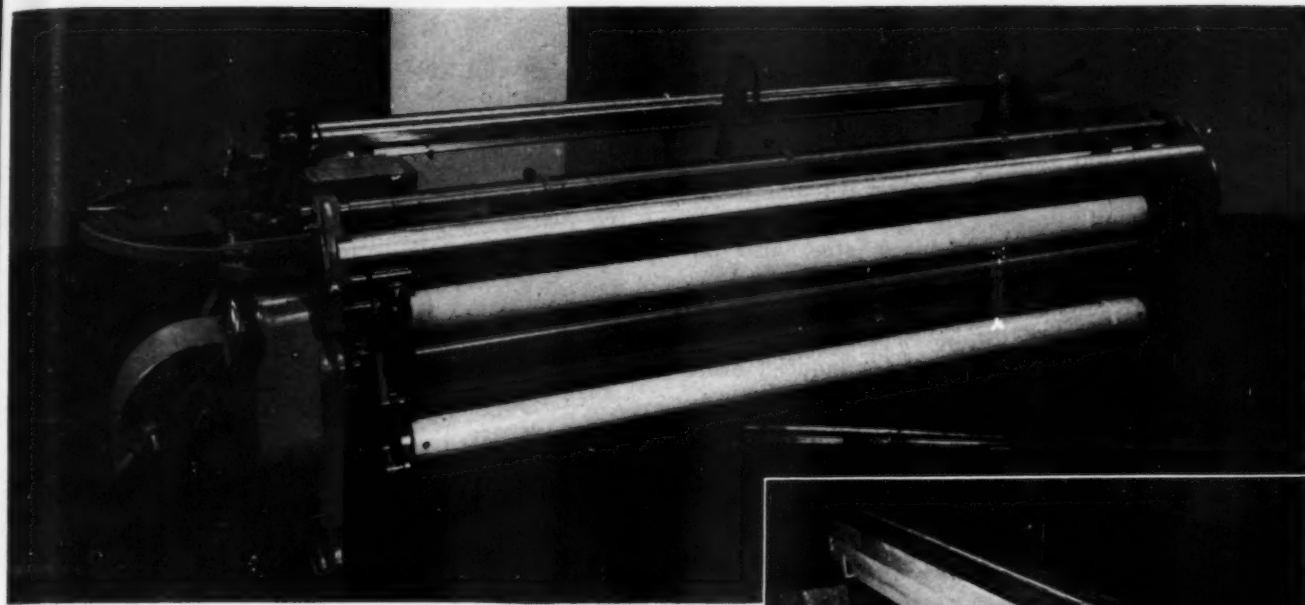

Fig. 7—Weaving machine employs tubing for rolls and also, with reinforcing angles and plates, for the main bed shown in the inset photo
To withstand stresses in any specific direction, or provide necessary mounting facilities, plates or trusses may be used to reinforce a tubular section. The main bed of the weaving machine, *Fig. 7*, is made up from round tubing with longitudinal angles and flat end plates welded-on. Other applications of tubing in this machine include the six different rolls shown. Lightness, straightness, and dimensional accuracy requirements make tubing a necessity. The bottom roll, or cloth roll, is sometimes made of wood to meet purchase requirements but the roll made of tubing has approximately the same weight and entails about the same cost.
- Warner & Swasey Co. (Fig. 7) .... Cleveland, O.